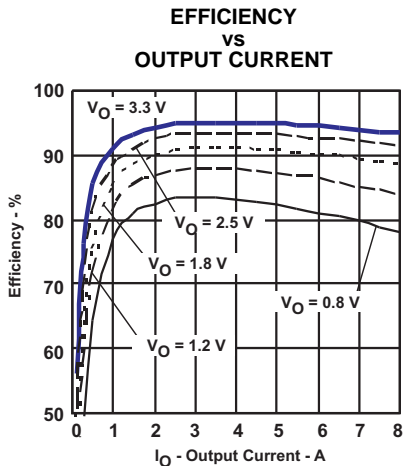
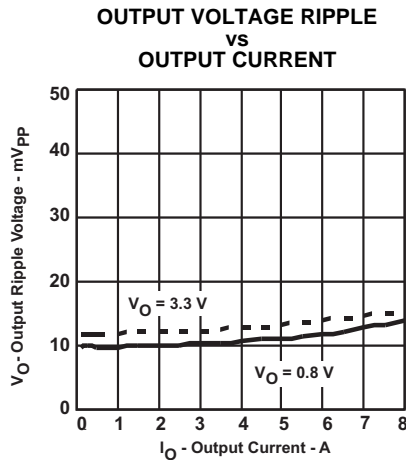
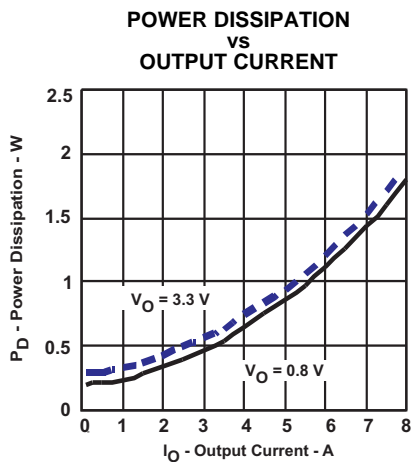

Figure 1.
Figure 2.
Figure 3.
- (8) The electrical characteristic data has been developed from actual products tested at 25C. This data is considered typical for the converter. Applies to Figure 1, Figure 2, and Figure 3.